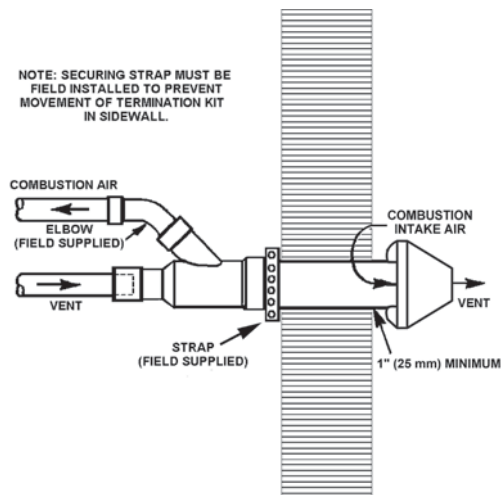

Figure 26
6. Ensure the Y connection is oriented so the air intake side of Y is on top, see Figure 26.
7. Secure assembly to structure as shown in Figure 26 using field-supplied metal strapping or equivalent support material.
8. Cement heater combustion-air and vent pipes to concentric vent termination assembly. See Figure 26 for proper pipe orientation and attachment.